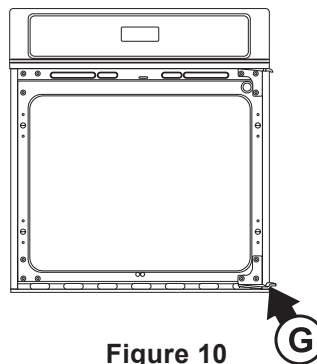

Figure 10
- 3.2.4. Remove the threaded pin from left side lower hinge (see G, Figure 10). Save the threaded pin for reassembly later.